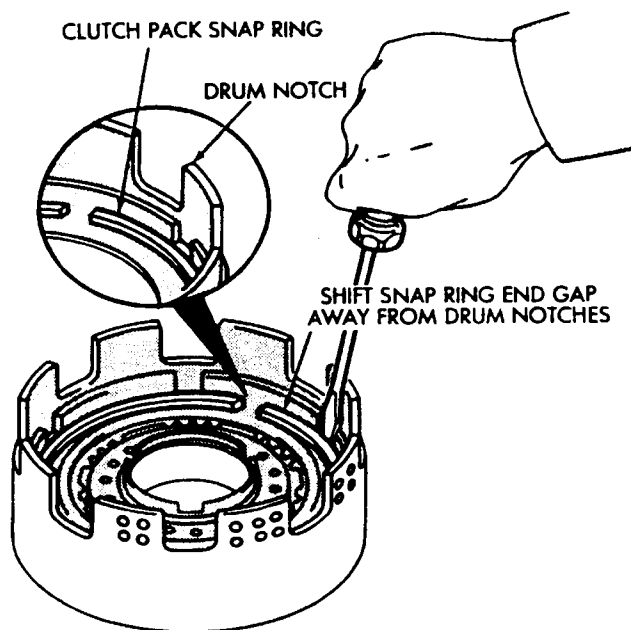

**Fig. 10 Testing Piston Check Ball Seating**
(15) Check clutch piston check ball (Fig. 10). Shake piston to see if ball moves freely. Then check ball seating by applying low pressure compressed air to ball inlet as shown. Air should not leak past check ball.